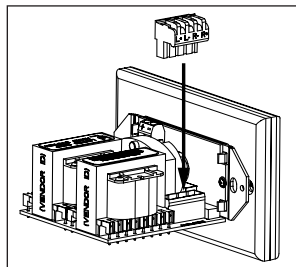

Figure 5
1. Locate the 4 pin speaker wire connector plugs (and remove them if they are plugged in). See **Figure 5**.
**NOTE:** Maintain proper phasing. Connect the positive terminals on the volume control to the positive terminals on the amplifier and speakers, and connect the negative terminals on the volume control to the negative terminals on the amplifier and speakers. To help you avoid improper phasing, the connector plug is keyed. Insert the smooth side of the connector plug into the smooth side of the socket. Don't force the scalloped side of the connector plug into the smooth side of the socket. See **Figure 5**.
7. Plug the connectors into the volume control as shown in **Figure 5**. The inputs of the IM volume control are the connector pins labeled AMPLIFIER. The outputs are the connector pins labeled SPEAKERS.